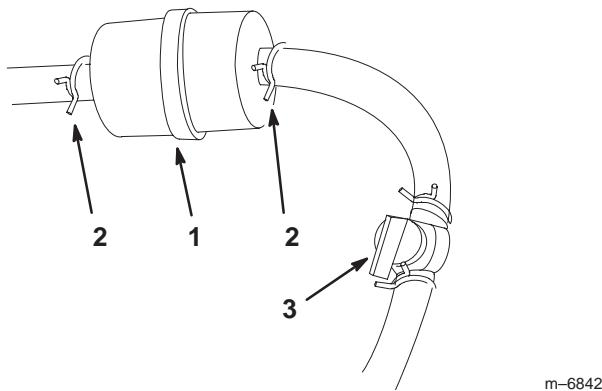

Figure 45
4. Close the fuel shut-off valve (Fig. 45).
5. Squeeze the ends of the hose clamps together and slide them away from the filter (Fig. 45).
9. Open fuel shut-off valve (Fig. 45).